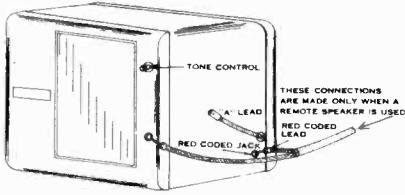

FIG. 10A
If desired, this auto receiver may be also used with an additional remote loud-speaker. This speaker may be mounted in the area directly over the windshield or in any other locality convenient for mounting. Speaker Jack Holes used for connecting an additional speaker are shown in Fig. 10A. THESE JACK HOLES ARE USED ONLY WHEN AN ADDITIONAL SPEAKER IS INSTALLED.
2. Replace the cover. Insert the red coated tip of the speaker cable into the Red coated Jack Hole as shown in Fig. 10A. Insert the other plain tip of the speaker cable into the Jack Hole on the front of the receiver.